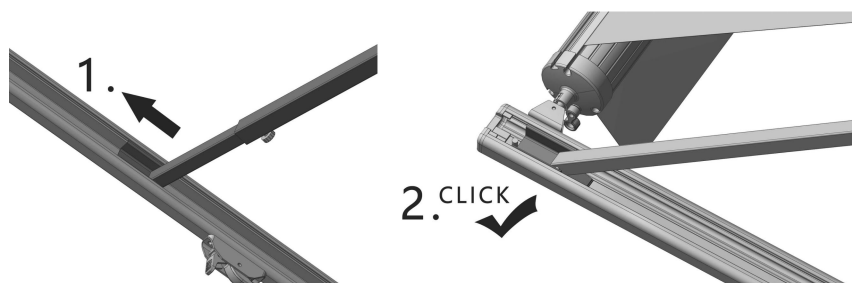

Figure D5
4.1.4 Push out the inner rod along the support rod, slide it and clip it into the buckle located at the head of the support arm (Figure D5), then tighten the black lock knob to fix the inner rod.